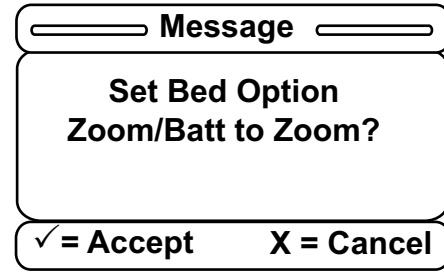

Figure 31 – Confirmation screen
- After you select one of the items, a confirmation screen will be displayed. The confirmation screen text will vary based on the item that you selected. The confirmation screen indicates that you chose **Zoom** (Figure 31). Press **Enter** on the footboard panel to confirm the **Zoom/Batt.** option or **Exit** to cancel the operation.